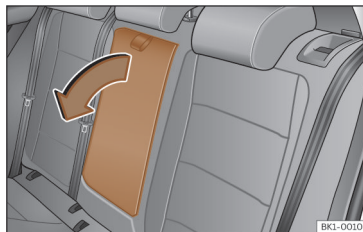

Fig. 104 Folding rear centre armrest (schematic view).
- To *lower* the armrest, pull the cord in the direction of the arrow >>> **Fig. 104.**